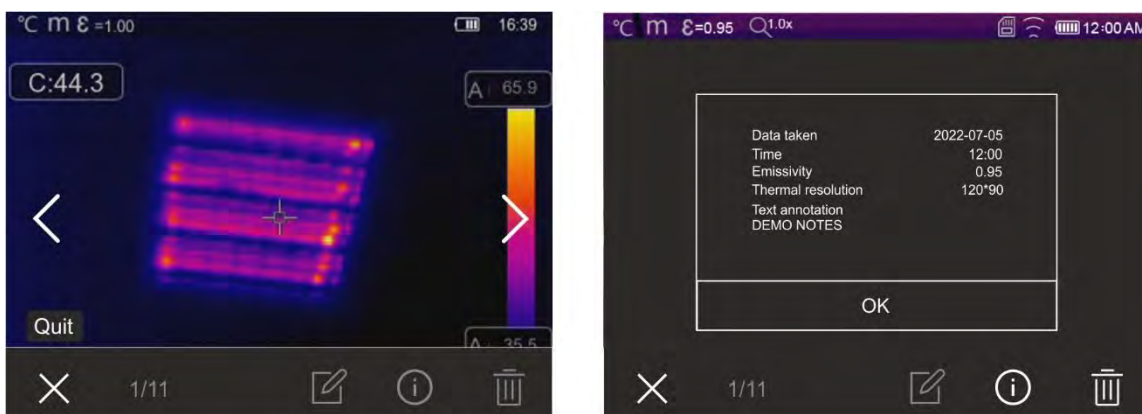

Fig. 49: Recalling on the display the images saved
1. Touch the to enter the gallery of the images and videos saved in the instrument's memory or on the micro SD card. The following screen in Fig. 49 – left side is shown on the display
3. Touch the icon “i” to open the section containing the information about the saved image. The screen in Fig. 49 – right side appears on the display.